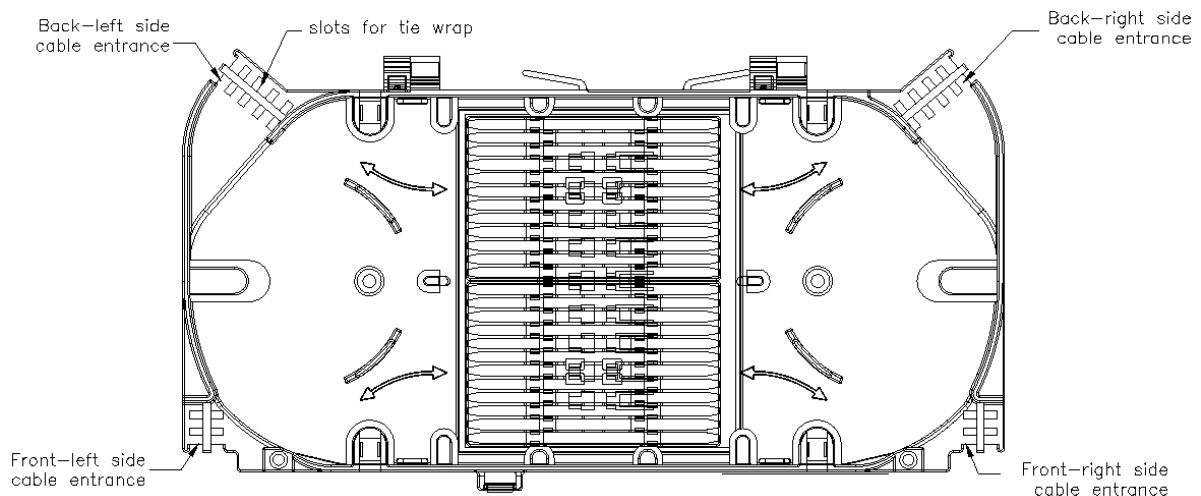

Figure 4
- It is recommended to use same side tray cable entrances for the pigtails entry, the other side for incoming cables. For example, for the pigtails, we could use the back side two cable entrances, the back-left side for 24F 0.9mm single cables, back-right side for another 24F. For the incoming cables, use the front side cable entrance, the front-right side for 48F cables if they are from the left side opening of shelf, otherwise use the front-left side, as Figure 4.